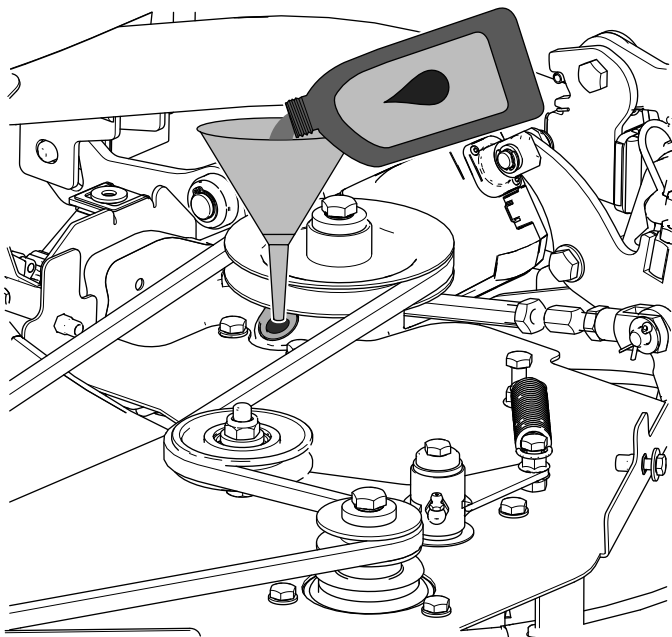

Figure 96
2. Using a funnel, add the specified gearbox oil into the gearbox through the plug hole (Figure 96).